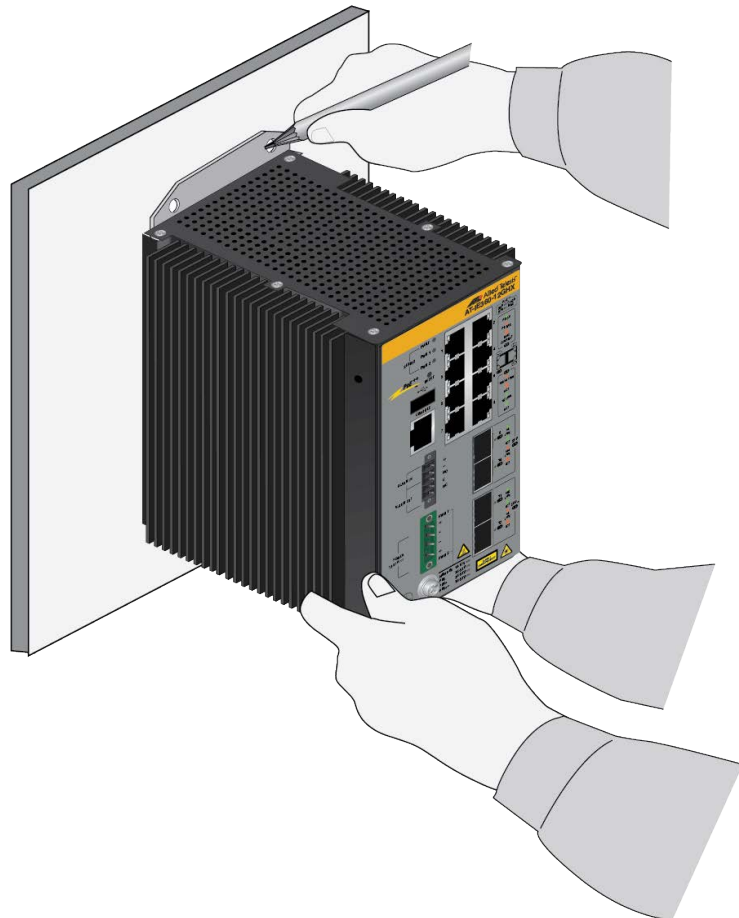

Figure 29. Marking the Locations of the Bracket Holes on a Concrete Wall
6. Have a person hold the switch on the concrete wall at the selected location for the device while you use a pencil or pen to mark the wall with the locations of the four screw holes in the two wall brackets. Refer to Figure 29.
- ❑ The switch must be oriented as shown in Figure 29. You may not install the switch horizontally or upside-down.